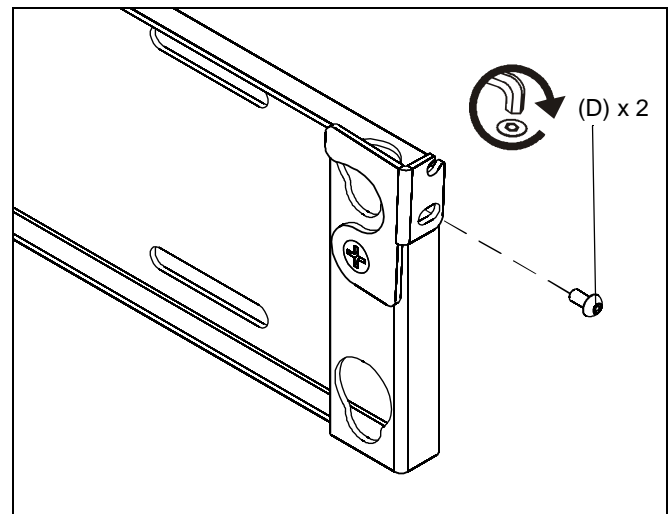

Figure 7
4. Install two 10-24 x 3/8" buttonhead security screws (D) into the latching flags to secure speaker to speaker bracket. (See Figure 7)